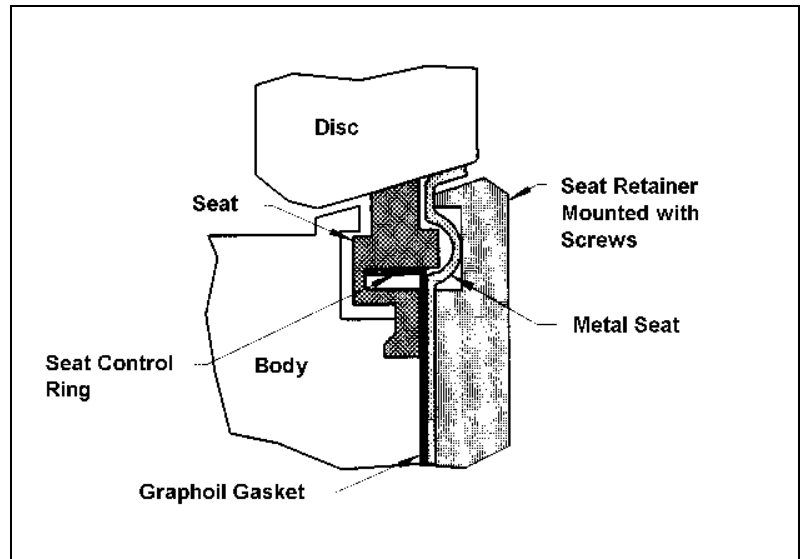

Figure 3 — Seat Options
- Seat Options (TTS2 and RTS2) — see Figure 3 on Page 10